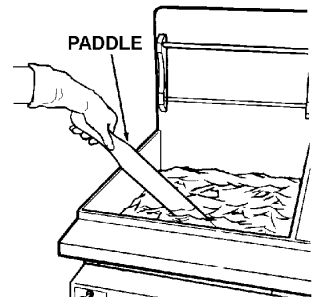

Figure 1.2: Stir with spoon to remove water
2. Heat fryers to 325°F. Stir oil thoroughly until all water is removed and shut fryer off (including pilot light) before filtering. (Figure 1.2)